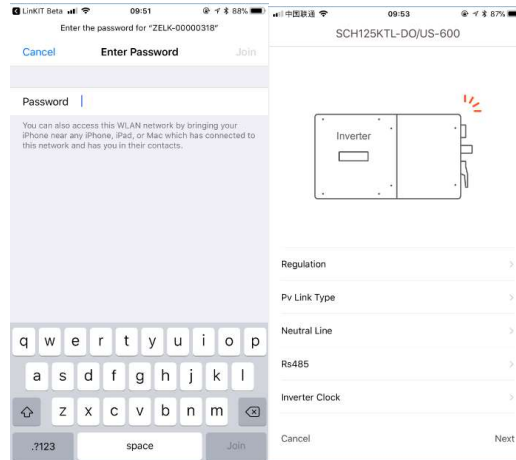

Figure 4-2 System setting
- (4) Input the password “PASSWORD” then set the grid “Regulation, PV Link Type, Neutral Line, RS485 and Inverter Clock” as shown in **Figure 4-2**.